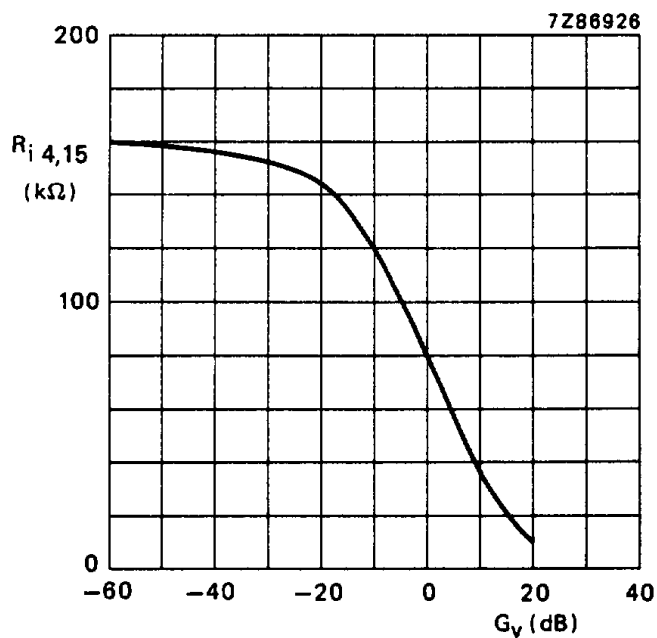

Fig.4 Input resistance ( $R_i$ ) as a function of gain of volume control ( $G_v$ ). Measured in Fig.1.
- Equation for input resistance (see also Fig.4)